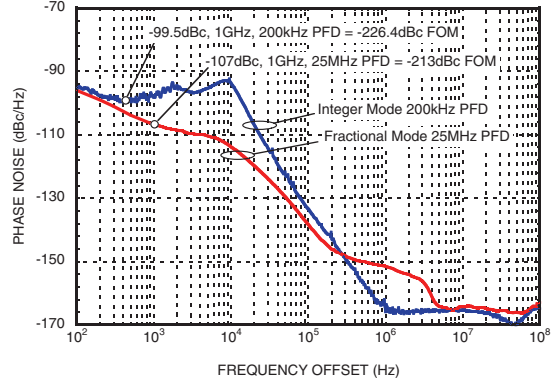

Figure 3.
The HMC700LP4(E) is targeted for ultra low phase noise applications with an external VCO. The synthesizer charge pump can operate with the charge pump supply as high as 5.5 Volts. The charge pump output at the varactor tuning port, normally can maintain low noise performance to within 500mV of either ground or the upper supply voltage (see example \(figure 3\))
It should be noted that the charge pump is a non-ideal device. Phase locked operation with the tuning voltage very near the positive charge pump supply voltage or very near ground will degrade the phase noise performance of the synthesizer. Exactly how close to the supply limits that one should operate is a question of margin needed for the application in question and user judgement. Figure 3. gives some idea of the typical performance near the supply limits. It should be noted that if operation is necessary very near the supply limits, for example less than 500mV from the supply limit, then it is recommended to operate with a DC leakage that leaks in the direction of the supply. For example, if the charge pump supply is 5.5V and locked operation is required with a VCO tune voltage of 5.2V, then operating with UP leakage on the charge pump will improve operation in this region. Similarly if phase locked operation is needed, with a VCO tune voltage of say 300mV, then operating with DN leakage is recommended.